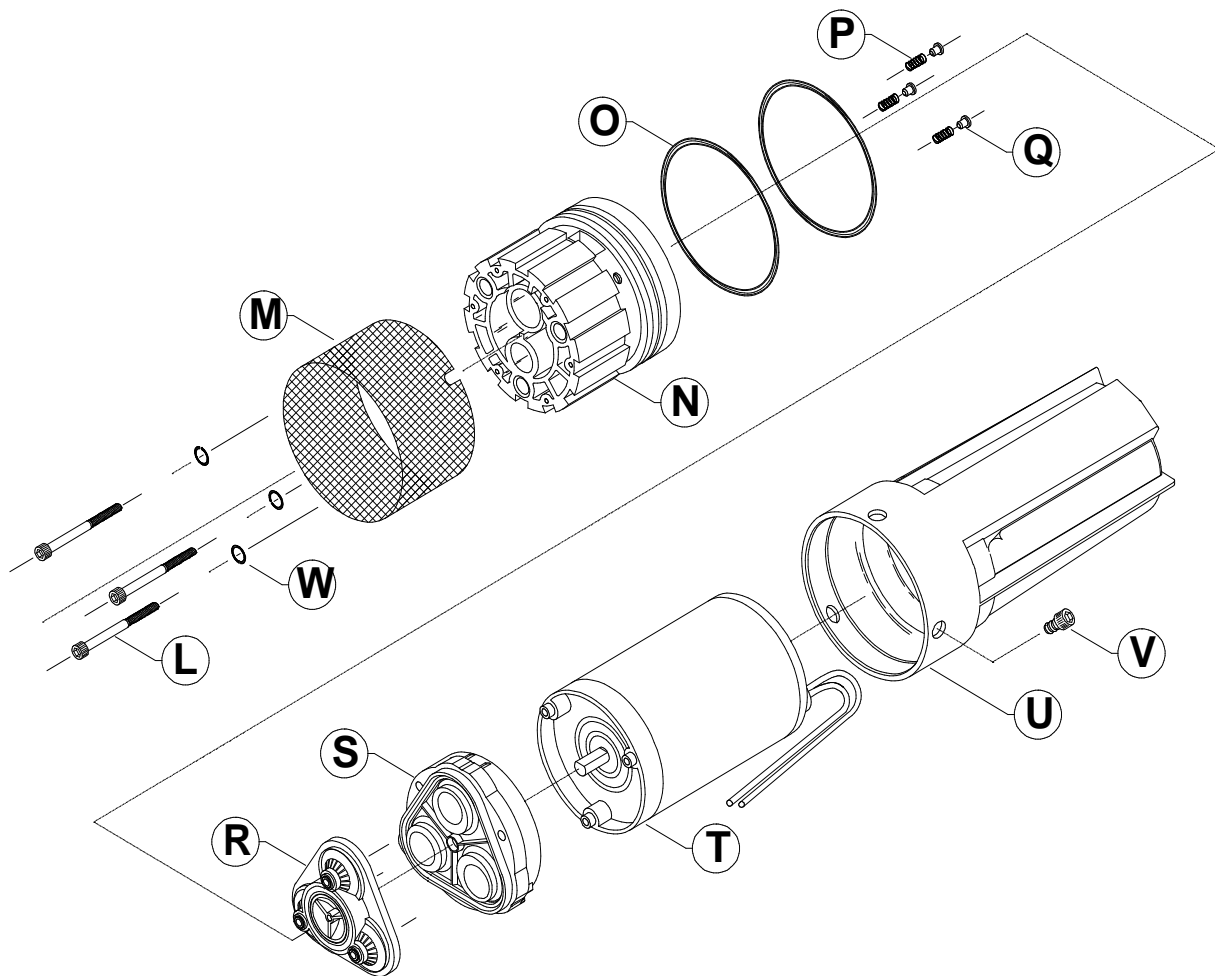

FIGURE 11
(Fig. 11, View B) before continuing to Step 6.
- 7.3 Use a 5/64" Allen Wrench to loosen the 2 screws (K) holding the motor leads and disconnect the Receptacle (Cable Adapter) (J).
8. Remove the Canister (U) (Fig. 11)
9. Remove Upper Housing (N) and Motor (T) (Fig. 11)
1. Install the Upper Housing Large O-Rings (O) (Fig. 11 & 12)
2. Install the Bypass Assembly (P and Q) (Fig. 11 & 12)
3. Install the Valve Housing Assembly (R) (Fig. 11 & 12)
4. Install the Lower Housing Assembly (Part S) (Fig. 11 & 12)
5. Install the Motor (T) (Fig. 11 & 12)